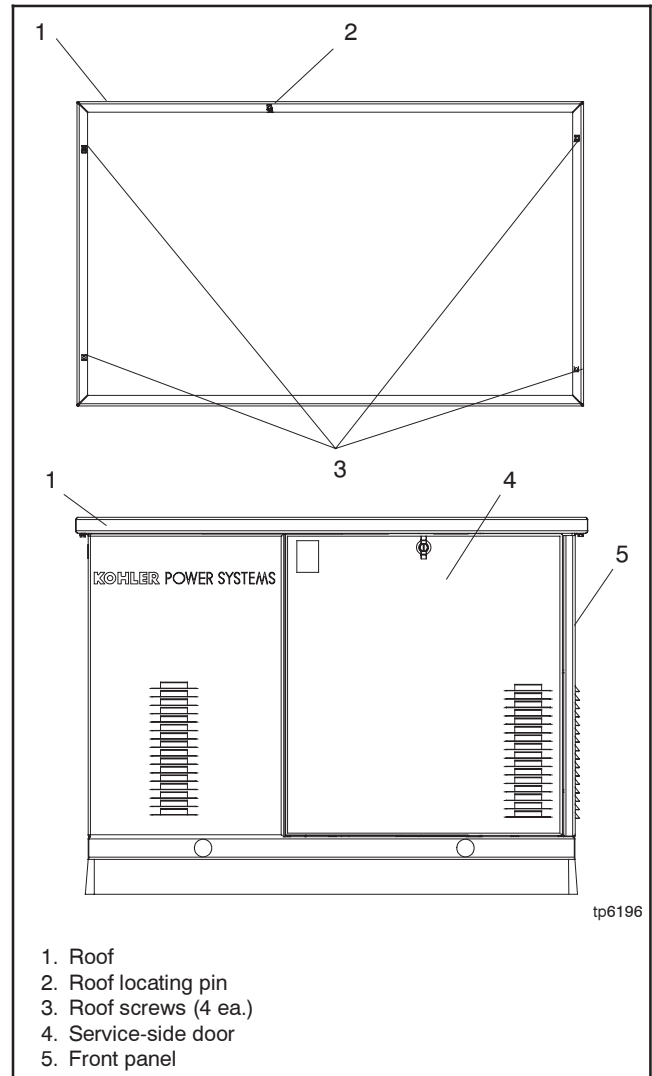

Figure 4-17 Enclosure Roof and Door
1. Remove the enclosure service-side door. See Figure 4-17.
3. Remove 4 roof screws. Lift the roof up and off. See Figure 4-17.
- a. Remove 5 screws to remove the front panel on the air intake end of the enclosure. Remove the plastic caps to access the 2 side screws. See Figure 4-17.